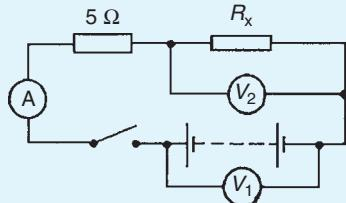

Figure 5.10
3. When the switch in the circuit in Fig. 5.10 is closed the reading on voltmeter 1 is 30V and that on voltmeter 2 is 10V. Determine the reading on the ammeter and the value of resistor \$R\_x\$ [4A, 2.5 \$\Omega\$]